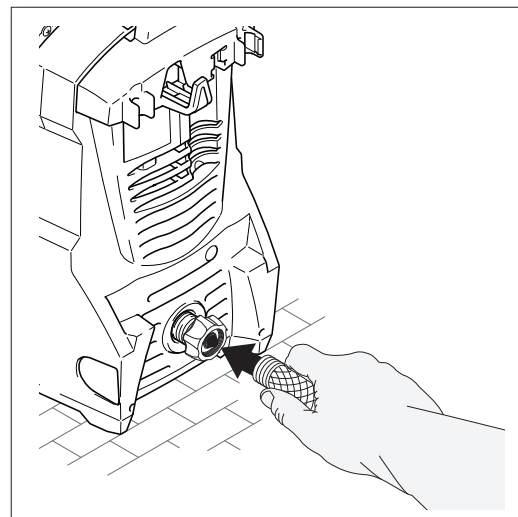

Fig. 11
- Attach the garden hose adapter to the end of the garden hose (**Fig. 11**) ***NOTE: Purge air from hose by running it for a few minutes until steady stream is achieved.***